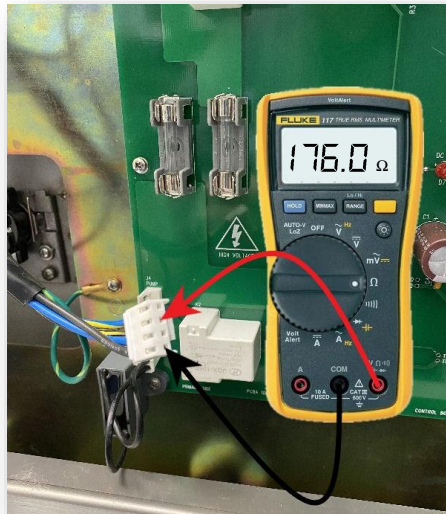

Figure 19 – Pump Motor Enable Signal
- a. Set the multimeter to DC voltage . Power on the SCA. Press the Start Button  (pump motor enabled). Check the voltage between TP10 (DC Ground) and resistor R5 (**See Figure 19**).